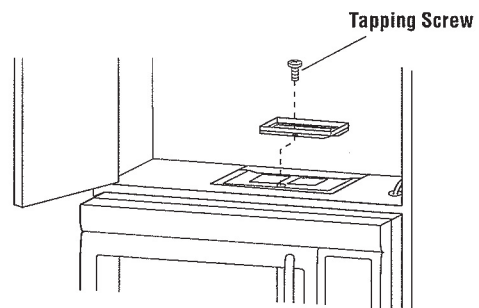

Figure 17
6. Attach the Exhaust Damper Assembly to the fan cover bracket on the top of the outercase cabinet after mounting the oven. To attach the Exhaust Damper Assembly, refer to MOUNTING OVEN TO THE WALL, page 6 Figure 17.